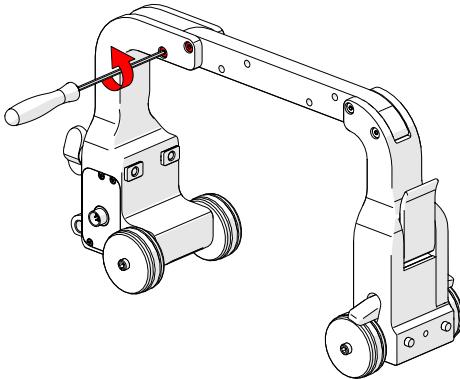

Fig. 18 - Remove shoulder screws
1. Use the supplied 2 mm hex driver to remove the two shoulder screws (Fig. 18).